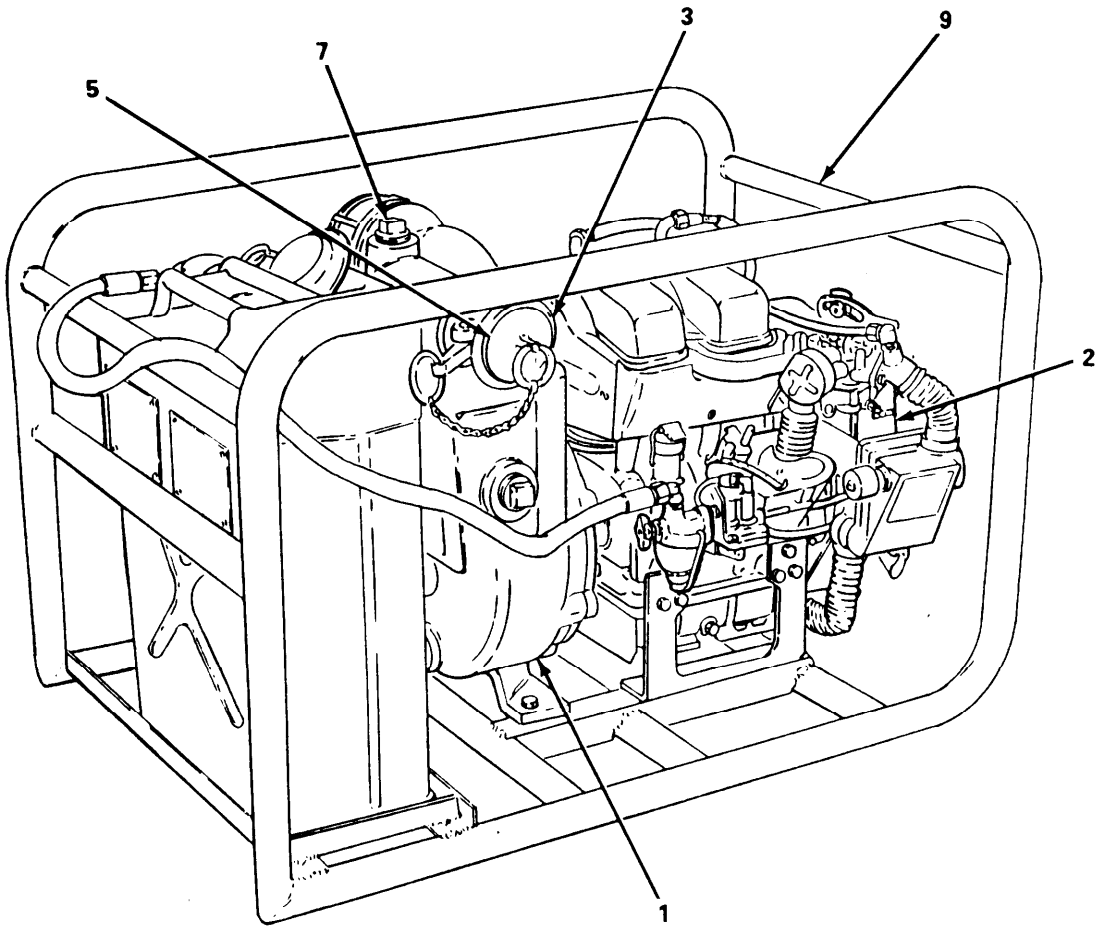

Figure 1-2. Pump/Engine Assembly (Sheet 1 of 2).
b. *Pump/Engine Frame and Components* (see figure 1-2) The pump/engine assembly is mounted in a welded tubular aluminum frame (9). The fuel tank (10) is a standard military 5-gallon (18.925-liter) can (jerry can). It is secured to the frame by a fabric webbing strap (11).
c. *Grounding Cable*. The pump is connected to a common ground rod through 8-foot (243.84-cm) ground cable (12) attached to the frame.